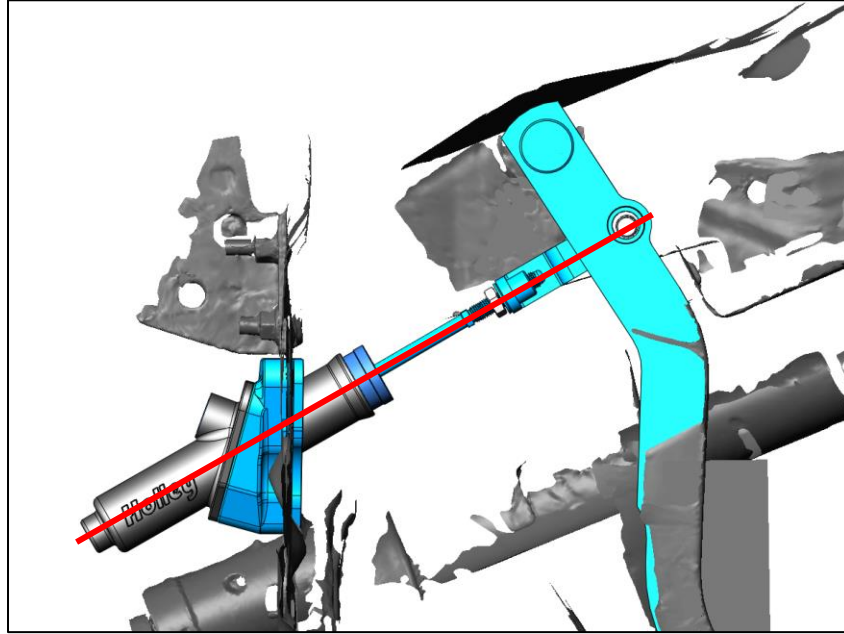

Figure 8: Clutch Linkage Positioning
28. Looking at the clutch master cylinder and linkage position, adjust the master cylinder mounting location until the linkage and the clutch master cylinder are in-line with one another as shown in Figure 8. Torque the 1/4-20 bolts to 15 ft./lbs.